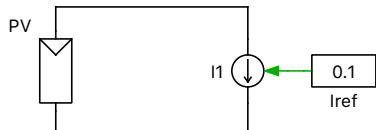

Figure 4: Customize the subsystem mask using drawing commands
- 4** You may then need to adjust the size of the subsystem so the corners meet the endpoints of the line you have just drawn. To do this, you first have to unprotect the subsystem by right-clicking and choosing **Subsystem + Unprotect**. The final PV subsystem symbol should look like that shown in Fig. 4.